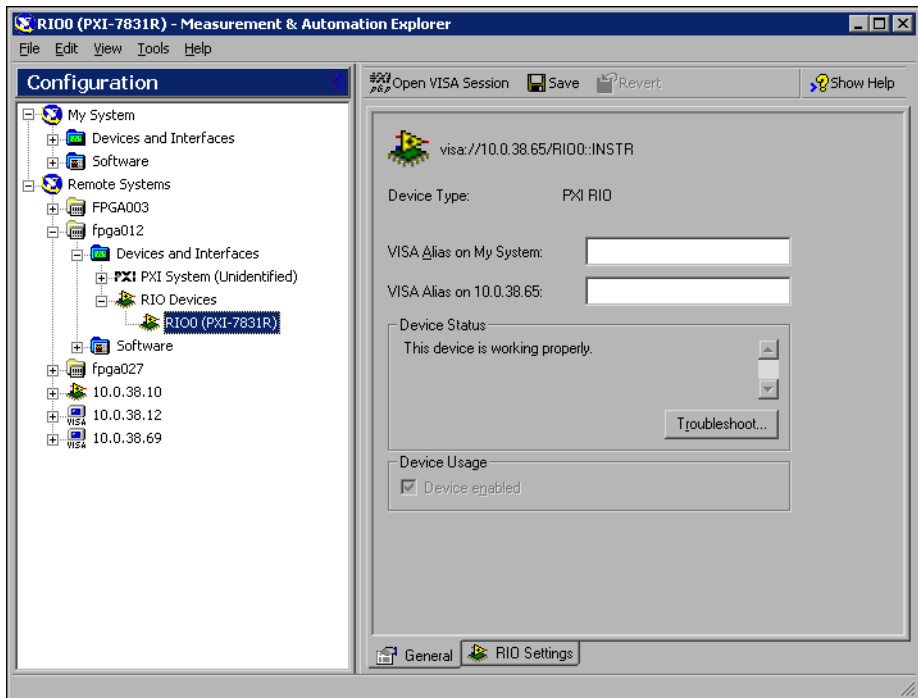

Figure 1. FPGA Device Installed on a Remote System
Figure 1 shows a remote system, named **fpga012**, that contains an NI PXI-7831R FPGA device. Notice that MAX displays the FPGA device VISA resource name and device type on the **General** tab.
6. After MAX displays the remote system, locate the FPGA device under the **Remote Systems»Remote System Name»Devices and Interfaces»RIO Devices** category, where *Remote System Name* is the name or IP address of the remote system, as shown in Figure 1.
5. After MAX displays the remote system, locate the FPGA device under the **Remote Systems»Remote System Name»Devices and Interfaces»RIO Devices** category, where *Remote System Name* is the name or IP address of the remote system, as shown in Figure 1.